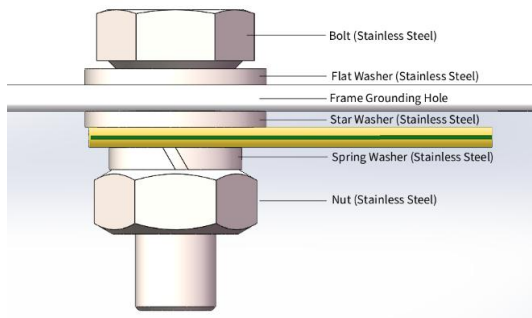

Figure 20 Schematic diagram for installation of grounding wire fastened by bolt
- Grounding wire installation with bolts: Stainless steel bolts are recommended for grounding and should be used in the designated grounding holes. First, insert the stainless steel bolt through the flat washer, then through the grounding hole of the frame, the flat washer, and the star washer, and finally tighten with a nut. The installation diagram is shown in Figure 20.